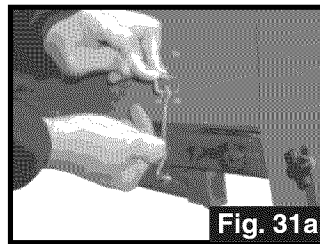

Fig. 31a
3. Now repeat on other legs. The knob for this set of legs will be slightly lower in its track, and the legs will fold up on top of the other legs. Once the legs are folded up, remove hook from peg on table and push down on the tension-mounted hook assembly to fit it into the latch on the bottom set of legs (Fig. 31a).